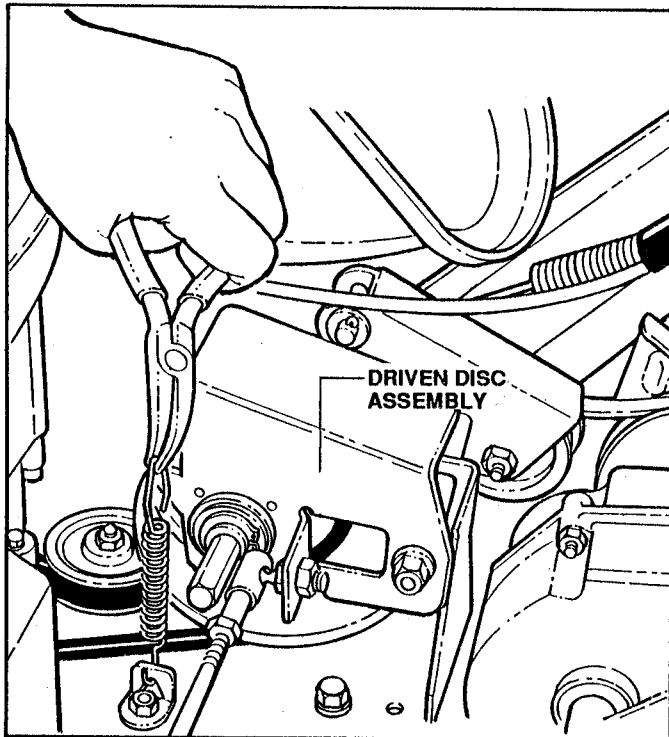

FIGURE 3.15
- (b) Using needle nose pliers, unhook the drive spring and slide the driven disc assembly off the hex shaft. See Figure 3.15.
- (a) Prior to folding handles on self-propelled models, disconnect the transfer rod clip. See Figure 3.15.